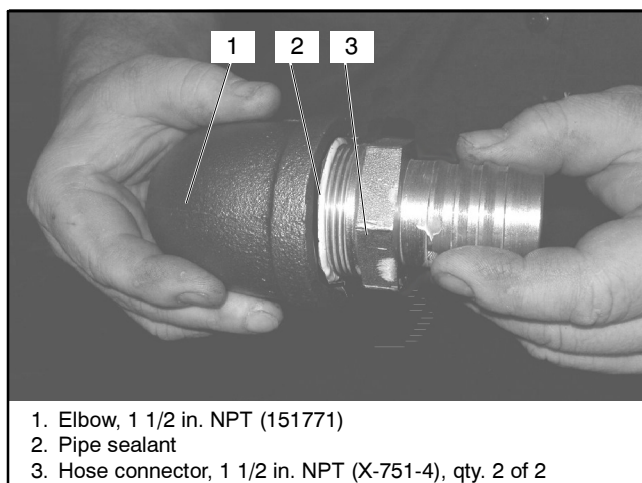

Figure 18 Elbow 151771 and Hose Connector X-751-4 Subassembly
- 2.2.9 Apply pipe sealant to threads on 1 1/2 in. NPT elbow 151771 and an additional 1 1/2 in. NPT hose connector X-751-4. See Figure 18.
- 2.2.10 Attach 1 1/2 in. NPT elbow 151771 to 1 1/2 in. NPT hose connector X-751-4. Tighten securely. See Figure 18.
- 2.2.13 Apply pipe sealant to threads to 1 1/2 in. NPT hose connector X-751-4. See Figure 18.